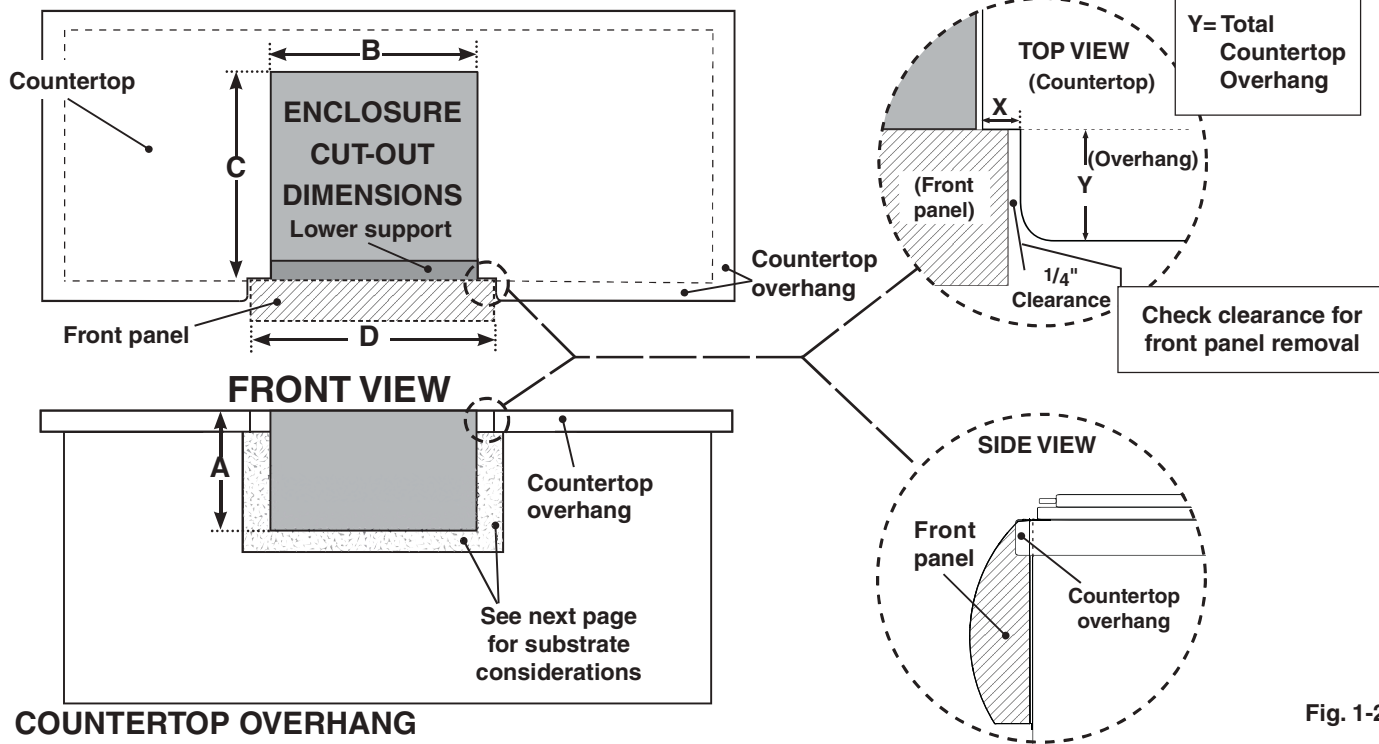

Fig. 1-2
1. Prepare a cut-out in the countertop as specified in Table 2 (reference Fig.1-2).